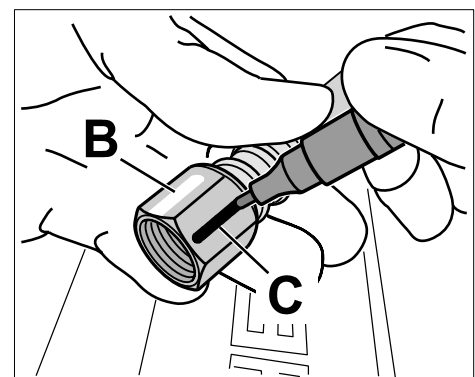

Figure 4
- 4.5 Hold the fuel line as shown in ⇒ *Figure 4* and apply another marking (in black, for example) on the hexagon on the fuel line using a water-resistant colored pen. The new marking ⇒ *Figure 4 -C-* must be applied as shown in ⇒ *Figure 4*, i.e. in the middle of the flat area of the hexagon, below the area with the white marking ⇒ *Figure 4 -B-*.